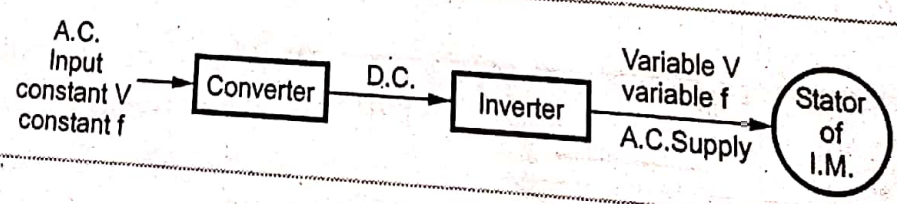

Fig. Q.67.1 Electronic scheme for V/f control
• The scheme of V/f method is shown in the Fig. Q.67.1.